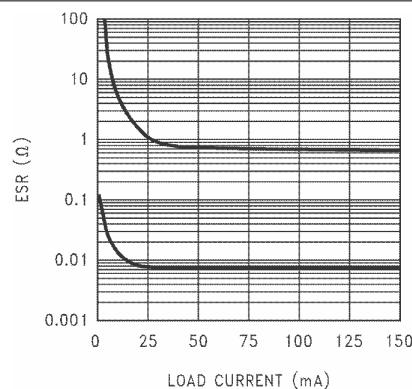
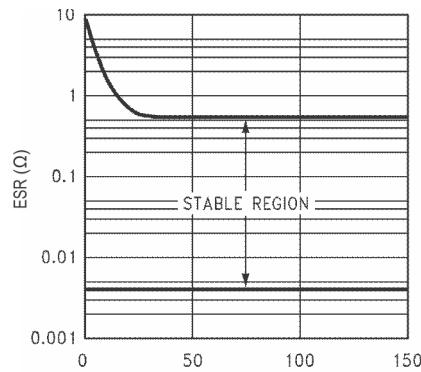

Figure 5-36. 2.2-μF Stable ESR Range for Output Voltage  $\leq 2.3 \text{ V}$  for Legacy Chip
Figure 5-38. 2.2- $\mu\text{F}$ , 3.3- $\mu\text{F}$  Stable ESR Range for Output Voltage  $\geq 2.5 \text{ V}$  for Legacy Chip
- ESR range: see Figure 5-36 through Figure 5-38